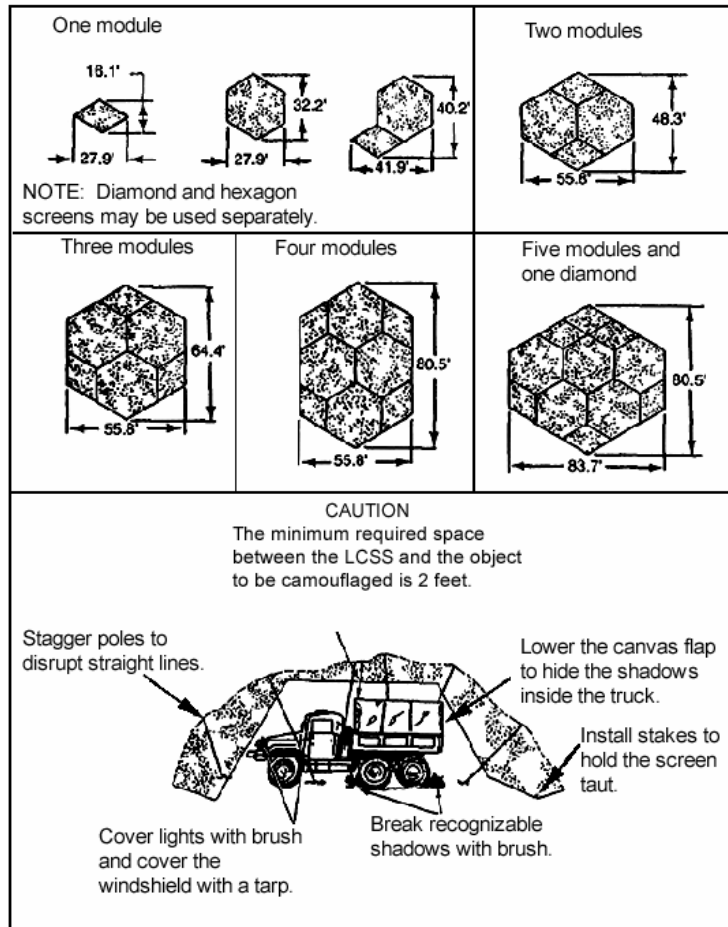

Figure 052-191-1362-1. Camouflage nets
2. Use the LCSS or natural camouflage materials to break up the shape and outline of the equipment so that it blends in with the surrounding area (figure 052-191-1362-1).